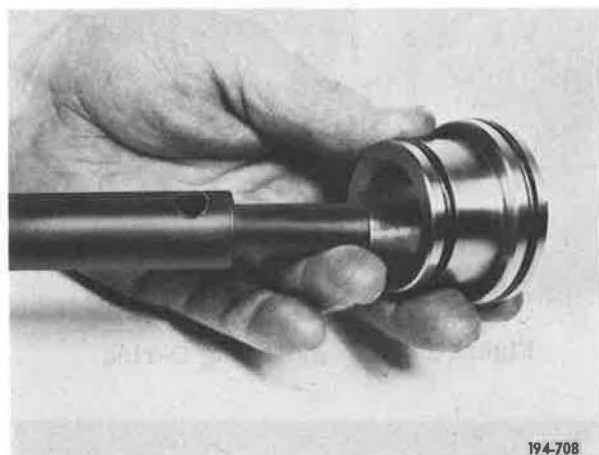

Figure 5-784. Removing Piston
21. Remove Direct piston from Hi/Direct shift rail. See **Figure 5-784**.